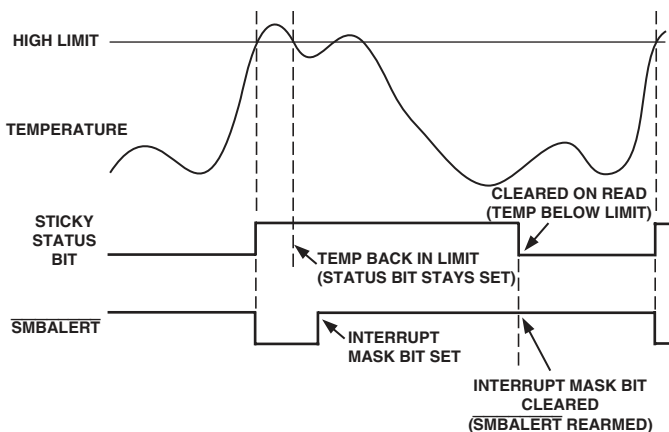

Figure 17. How Masking the Interrupt Source Affects  $\overline{\text{SMBALERT}}$  Output
7. Periodically poll the Status Registers. If the interrupt status bit has cleared, reset the corresponding Interrupt Mask Bit to 0. This will cause the  $\overline{\text{SMBALERT}}$  output and status bits to behave as shown in Figure 17.